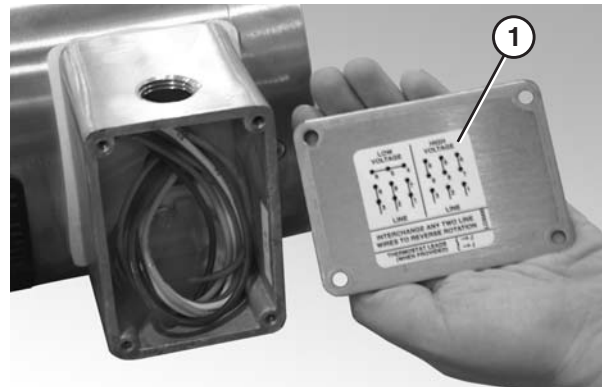

Figure 16
2. Refer to the wiring diagram (Figure 16, item 1) on the inside of the junction box cover.